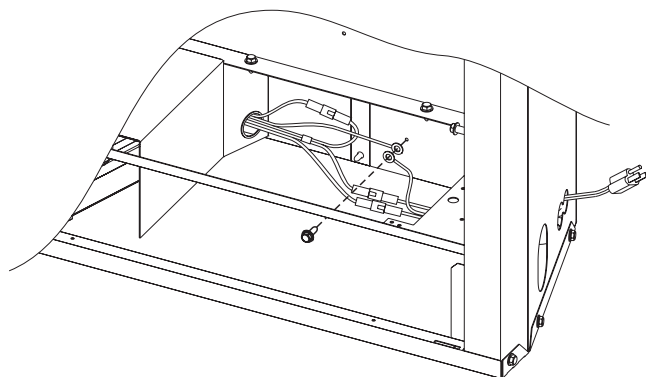

Figure 31
24. Attach green ground wires from wiring harness and cord set to interior back of outer casing with one 8 x 1/2" Phillips screw. See Figure 31.